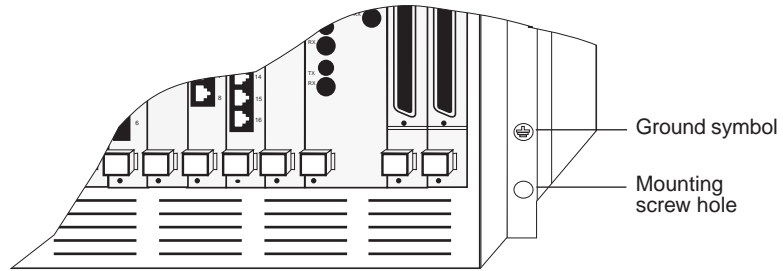

Figure 3 Ground Symbol for Static Discharge
- Always wear the ESD wrist strap provided with the system, ensuring that it makes good skin contact and that the alligator clip is connected to a suitable ground. See Figure 3 on page 6.
- 1 Discharge yourself of static electricity by placing the ESD wrist strap on your wrist and clipping the alligator clip to the mounting screw located next to the black ground symbol on the system's right mounting bracket. See Figure 3. If your system does not have mounting brackets, touch the rear panel.